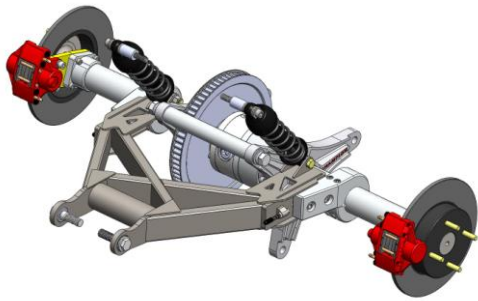

Figure 10
- c. Passing the left side of the rear end assembly through drive belt, position assembly accordingly and slide axle clamps into the end of the swing arm. Figure 10